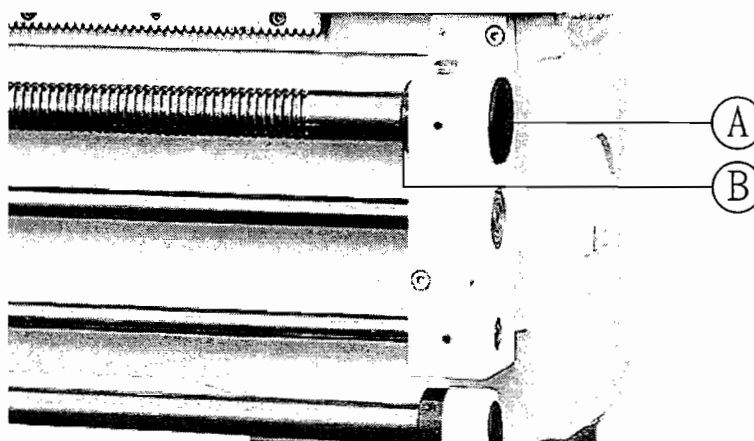

Fig. 7-8
Should the threading not repeat, the cause is most likely the leadscrew has backlash. To adjust the backlash, remove the plastic cover on the leadscrew bracket (Fig. 7-8), loosen nut (A) then tighten the left side nut (B). To check the backlash, engage the half nut and while observing the connecting section of the leadscrew to the gearbox move the apron handwheel back and forth. If the backlash is properly set, there should be no movement in the shaft. After adjustment, re-tighten nut (A) and replace plastic cover.